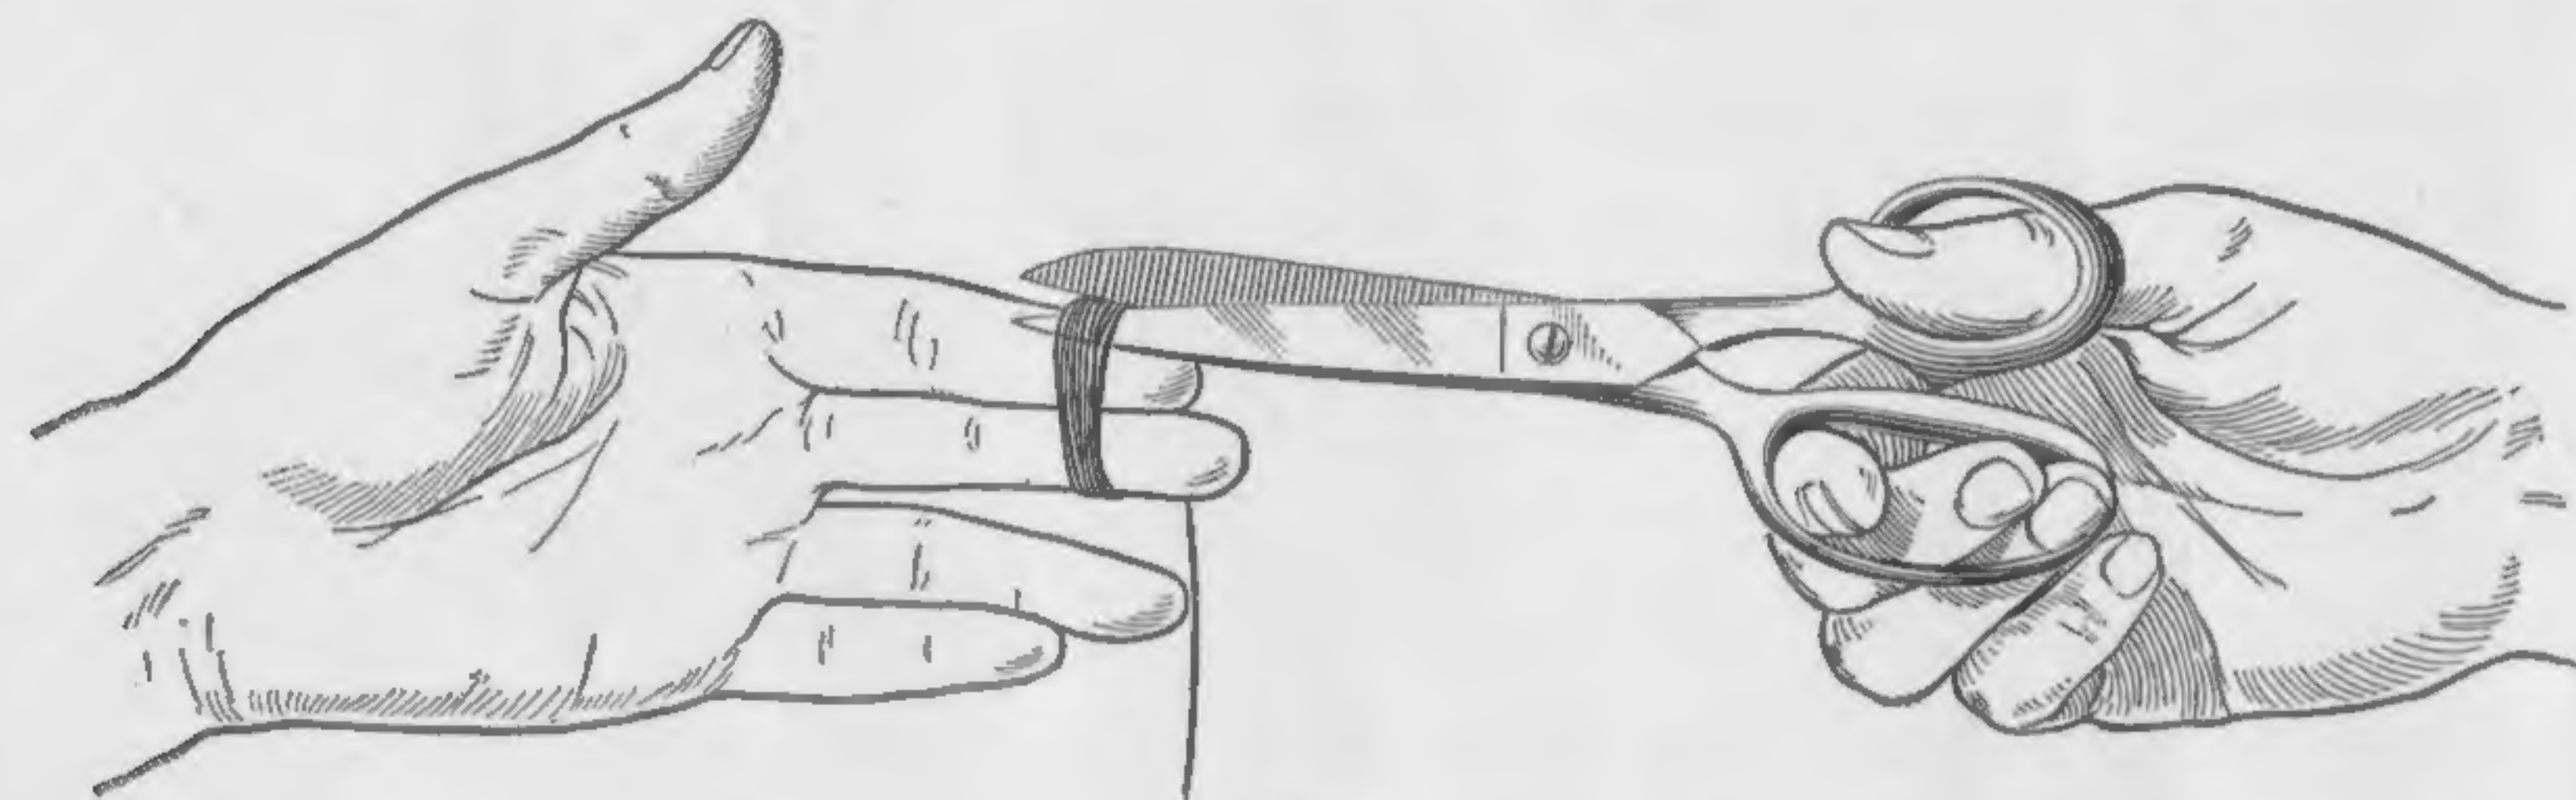

FIG. 6
12. The shears are frequently used for cutting tie wires. The method of doing this is shown in Fig. 6. The tie wire is wrapped a number of times around the first and second fingers, then one blade of the shears is inserted beneath the top of the coils, along the fore-finger, and the several turns are cut across, as shown. The result is a number of short tie wires of equal lengths. After some experience has been gained, shorter tie wires can be used, in which case the coils around the two fingers are cut at both the top and the bottom. When frames are made in factories, on shapers or blocks formed particularly for them, the tie wire is not cut into lengths, but is